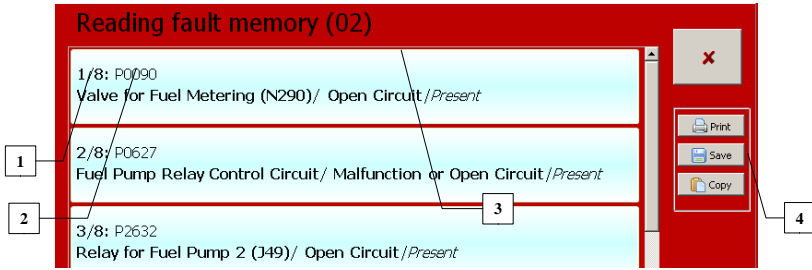

Figure 5.7
After confirming this option the device loads list of faults saved in the control unit's memory, and displays them, if there are any (Figure 5.7). Warning - in real cases the number of faults may vary! Individual items contain a sequential number/number of faults (1), fault code (2) and the text description itself (3). After the list loads you can save it, print it or copy to clipboard. All these options can be found in a box on the right side (4).